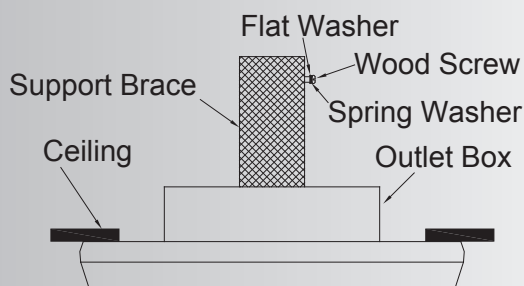

Fig. 10
**Step 1.** Drive a wood screw and washers into the side of the brace that holds the outlet box. Leave 3mm (1/8") of space between the support brace and the washer. (Fig. 10)